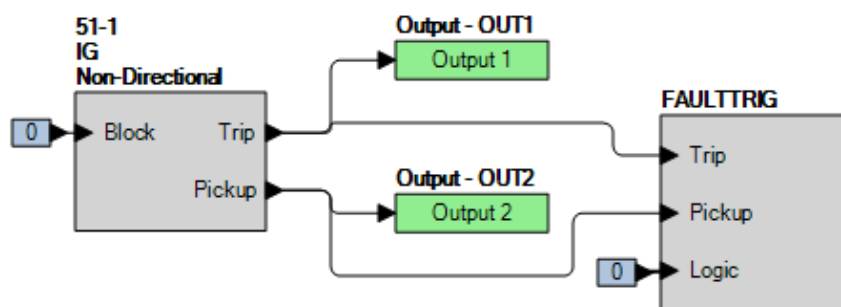

Figure 65-4. BESTlogicPlus Settings (IG Mode)
Step 2: Use *BESTCOMSPlus* to configure the *BESTlogicPlus* programmable logic shown in Figure 65-4.
- Step 4: Prepare to monitor the 51-1 function operation. Operation can be verified by monitoring OUT2 (see Figure 65-4).
- Step 5: Connect a current source to terminals D7 and D8 (IG).